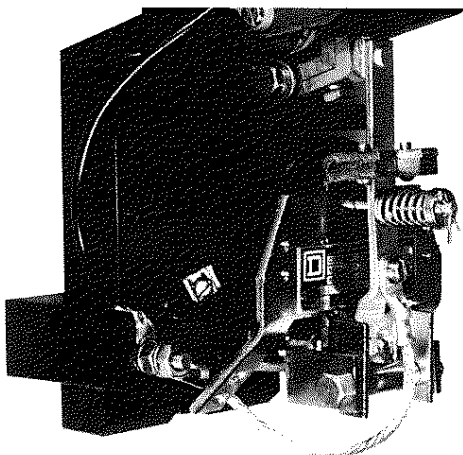

Figure 2
- Check that the movable contact tip is securely fastened to the contact arm assembly (17) with the contact arm spring, cup washer and cotter pin and that the movable contact tip is properly seated in the slot in the contact arm assembly (Fig. 2).
- Check that the stationary contact tip is properly seated against the stationary support of the contactor (Fig. 2).
2. Disconnect the top end of the shunt by removing the pan head screw (22), lockwasher (23), and washer (24) (Fig. 2).